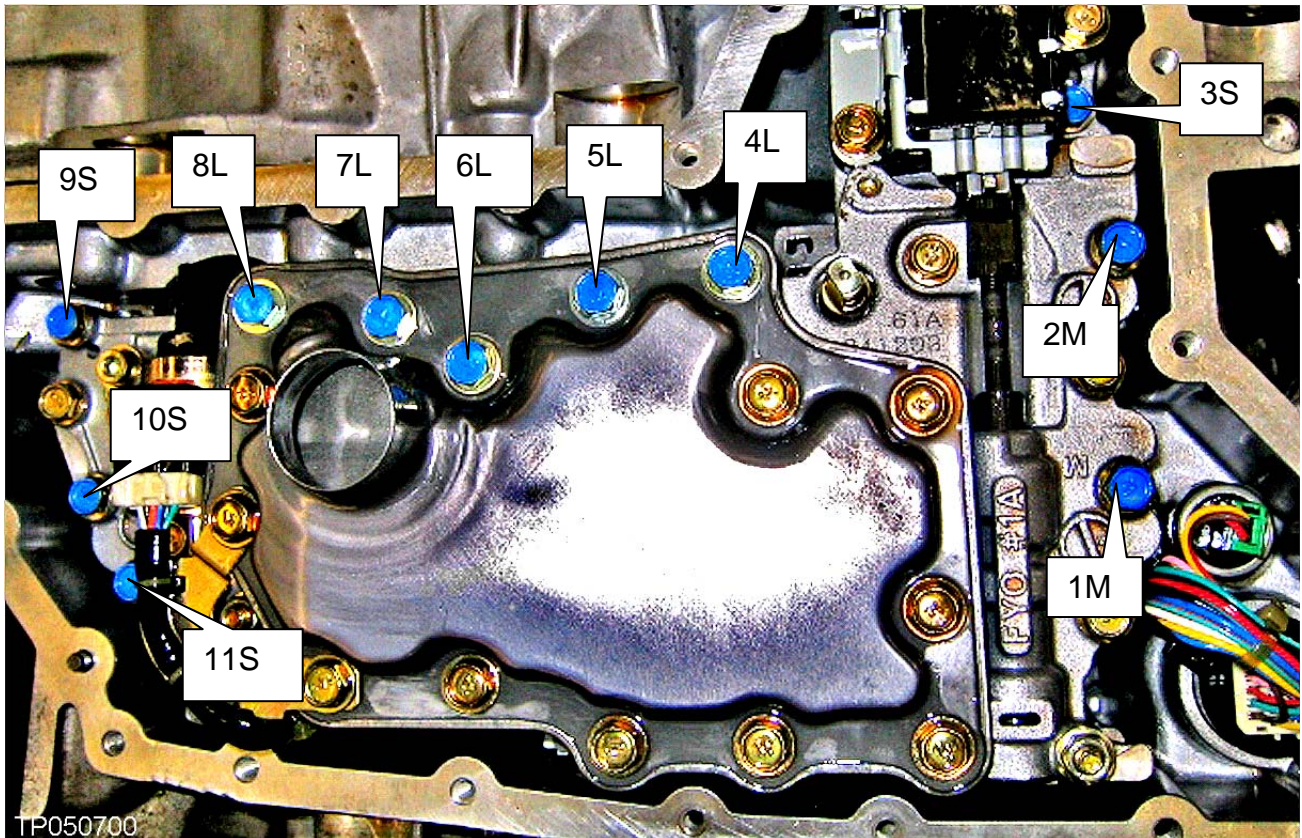

Figure 9
6. Remove the bolts attaching the valve body to the transmission (see Figure 9).
- Torque sequence as per Figure 9: 6-7-5-8-4-9-3-10-2-11-1.